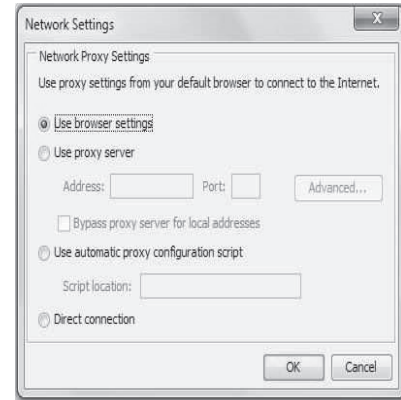

Fig. 68 — Network Settings
- **Network settings:** In the Java Control Panel, click Network Settings. Select a direct connection to bypass the proxy server or select the automatic configuration script. See Fig. 68.